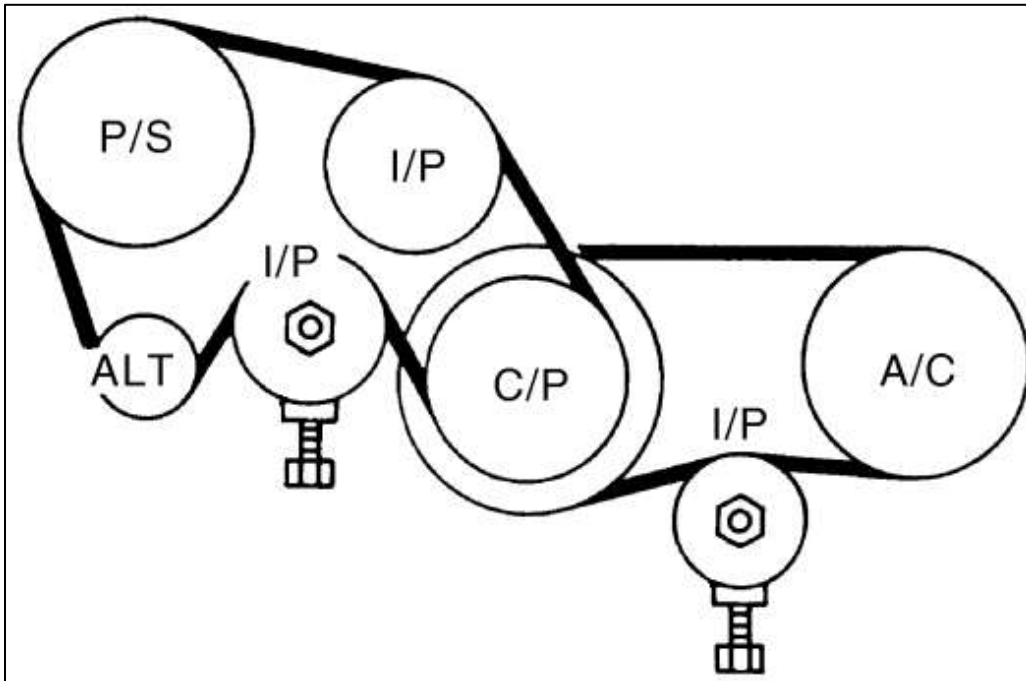

Figure 4
12. Reinstall the Drive Belts onto the Crank Pulley. *Figure 4* below shows the proper Belt routing.